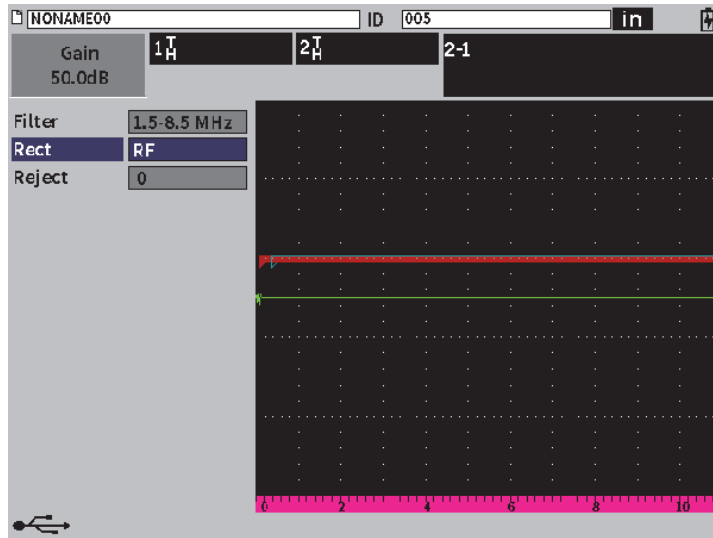

Figure 11-42 Receiver dialog box
2. In the receiver (**RX**) dialog box, set **Rect** to **RF** (see Figure 11-42 on page 223). The **Rect** setting enables you to view the positive and negative amplitude values.
3. Press ESC twice to dismiss the setup menu and view the echo-to-echo measurement in the live A-scan (see Figure 11-42 on page 223).